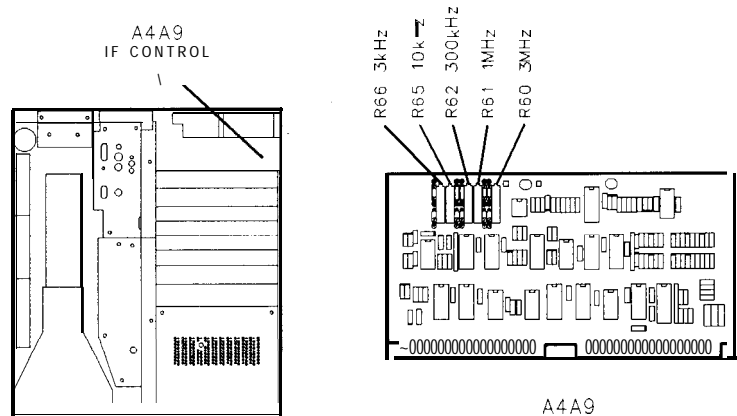

Figure 4-7. Location of Bandwidth Adjustments
8. Adjust A4A9R60 3 MHz for MKR In] indication of 1.5 MHz while maintaining the marker at .500 X using the DATA knob. Refer to Figure 4-7 for the adjustment location.
- Adjust A4A9R61 1 MHz for MKR A indication of 500 kHz while maintaining the marker at 0.500 X using the DATA knob. Refer to Figure 4-7 for the adjustment location.
- Adjust A4A9R62 300 kHz for MKR A indication of 150 kHz while maintaining marker at .500 X using the data knob. Refer to Figure 4-7 for location of adjustment.
26. Adjust A4A9R65 10 kHz for MKR A indication of 5.00 kHz while maintaining the marker at .500 X using the DATA knob. Refer to Figure 4-7 for the adjustment location.
32. Adjust A4A9R66 3 kHz for MKR A indication of 1.5 kHz while maintaining the marker at .500 X using the DATA knob. Refer to Figure 4-7 for the adjustment location.